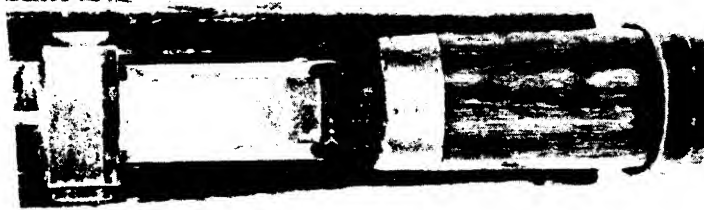

FIGURE 31. REAR RAMP SIGHT FOR CARBINE M1938.
b. The rear ramp sight (fig. 31) is similar to the rear ramp sight of the rifle M1891/30, except that it is shorter and is graduated from 100 meters to 1,000 meters (110 yards to 1,100 yards).
The hooded post-type front sight of the carbine M1938 is very similar to the front sight of the rifle M1891/30, but is mounted on a barrel band. The curved-ramp tangent-type rear sight is also very similar in construction to that of the M1891/30; however, it is graduated from 100 to 1,000 meters (110 to 1,100 yards) (fig. 31).